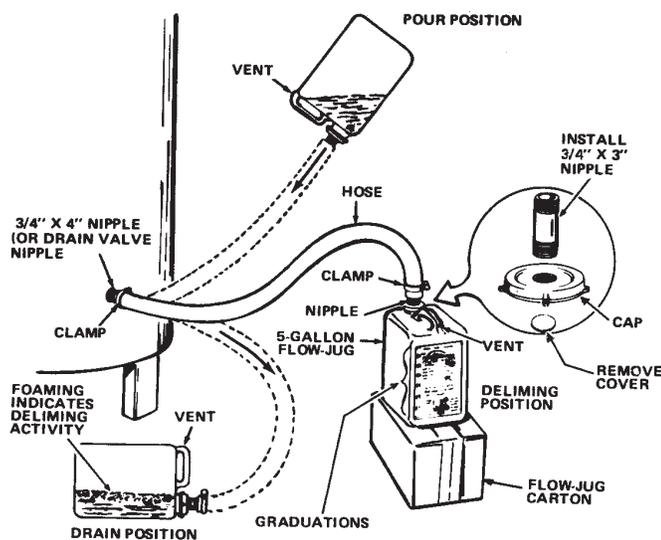

FIGURE 15
6. Lift container to the "Pour" Position, see Figure 15, being careful to keep the vent in the handle above the liquid level and pour the UN•LIME into the heater.
8. Let UN•LIME remain in the heater for 5 minutes and then lower the container to the "Drain" Position, see Figure 15.